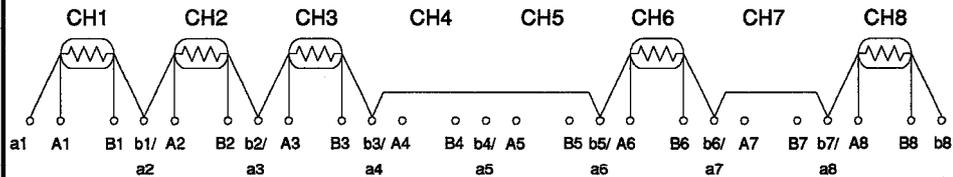

Figure 2
- (2) Skip terminals an and bn of unused channels (see Figure 2 below).